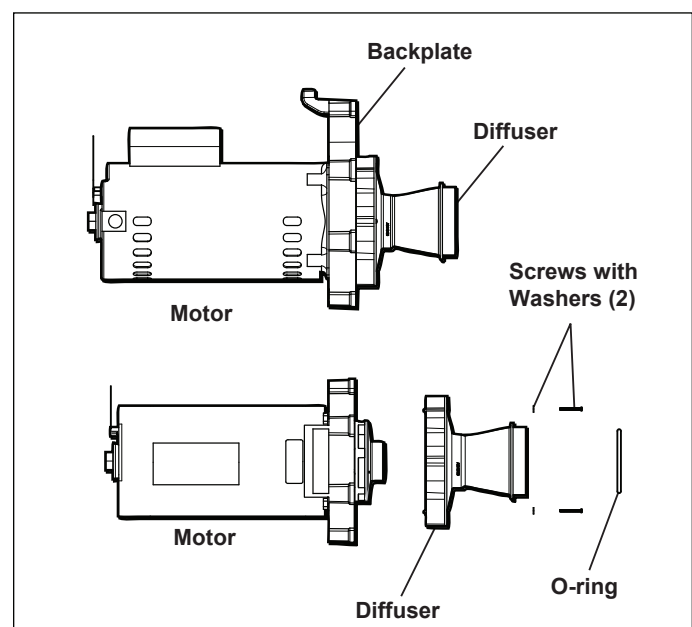

Figure 6. Remove the Diffuser
5. Using a No. 1 Phillips screwdriver, remove the two (2) screws holding the diffuser. (The diffuser covers the impeller.) Then remove the diffuser. See Figure 6.